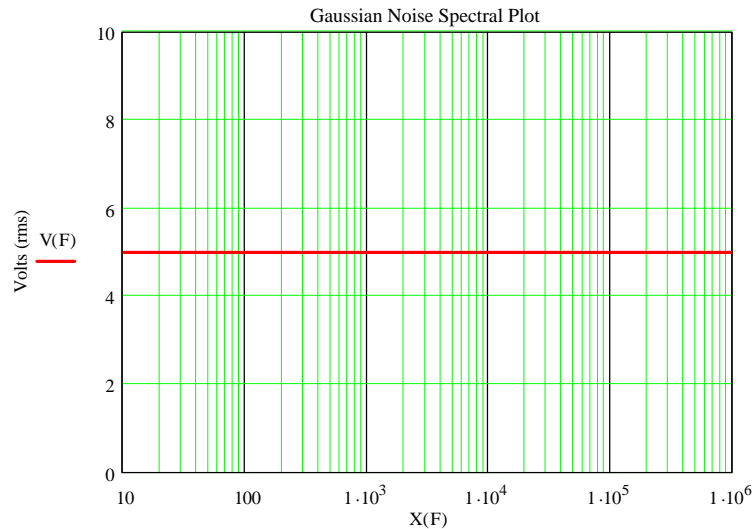

Figure 5. Gaussian rms voltage noise frequency spectrum plot.
- b. Constant spectral content (White) in the frequency domain (Fig. 5)